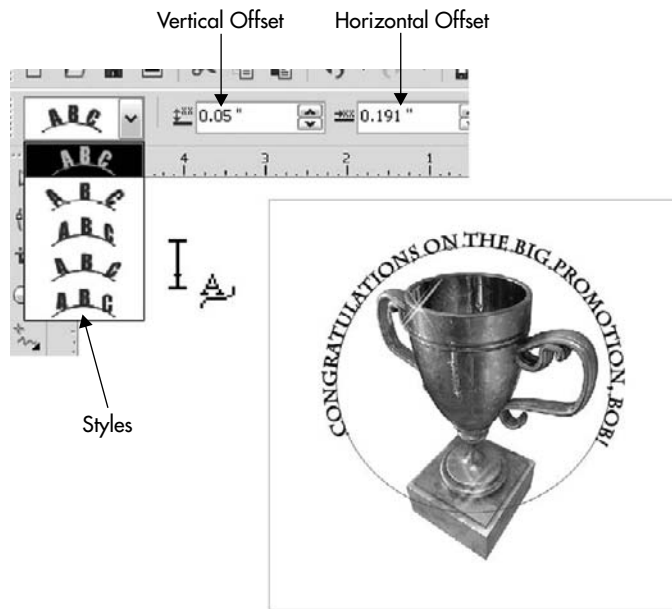

FIGURE 14-14 Use Fit Text To Curve to make your message a flowing one.
5. If you’d like a truly wild and interesting style or treatment of the text, such as a 3D ribbon look, check out the drop-down list at left on the Property Bar. Click any style to apply it. Figure 14-14 shows an example of an award; the circle still has an outline, but it takes one right-click to correct that.